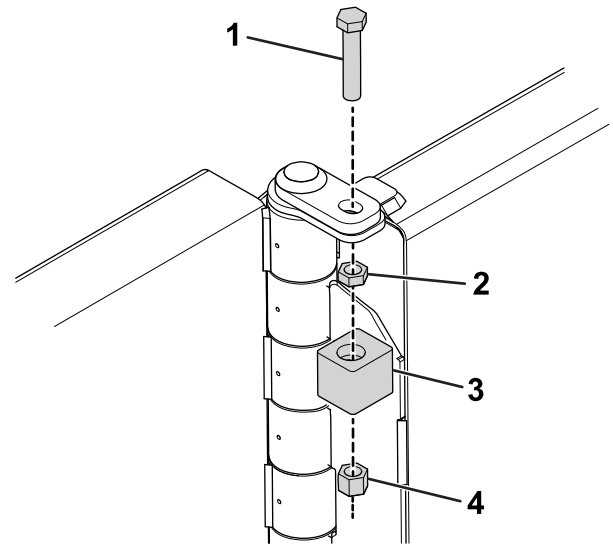

Figure 5
3. Secure the hinge pin to the center blade with a bolt (1/2 x 3 inches) and jam nut (Figure 5).
4. Slide the bumper over the jam nut and secure it to the bolt using a locknut (Figure 5).